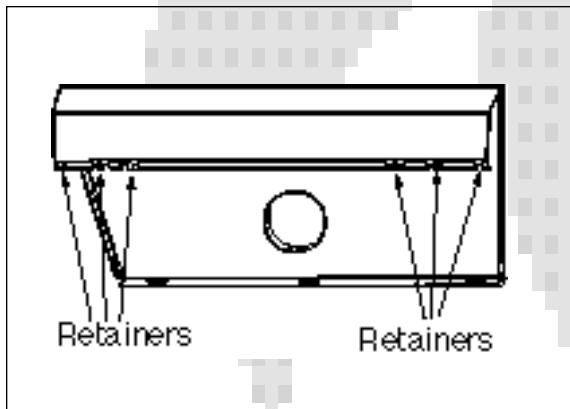

Figure 16 - Screen Installation
3. For ease of installation, bend down the [6] Firescreen Retainers. See Figure 16.
2. Push in gas control knob slightly and turn clockwise to "OFF". (See Figure 16, page 15).
4. Wait five (5) minutes to clear out any gas. If you then smell gas, **STOP!** Follow "B" in the safety information on this page. If you don't smell gas, go on to the next step.